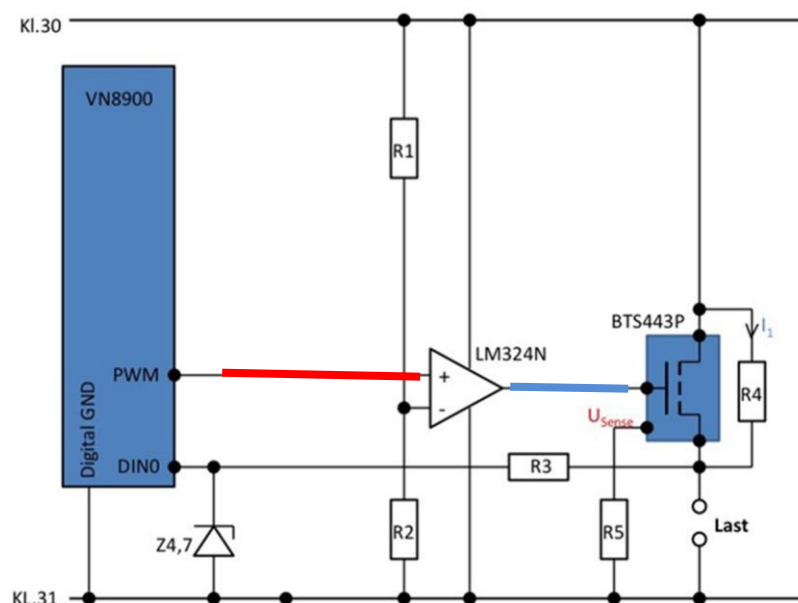

Figure 1: Electric circuit of the seat heating's control
Figure 1 shows the control circuit of the heating resistor as well as the VN8900 that you already know. Please search for information concerning the power switch used here, as well as for the operation amplifier.
- d) Please highlight (in colours) the different voltage levels in figure 1.
h) Please specify the calculation formula for $R5 = f(V_{bb}, I_{Last}, K)$ referring to figure 1.